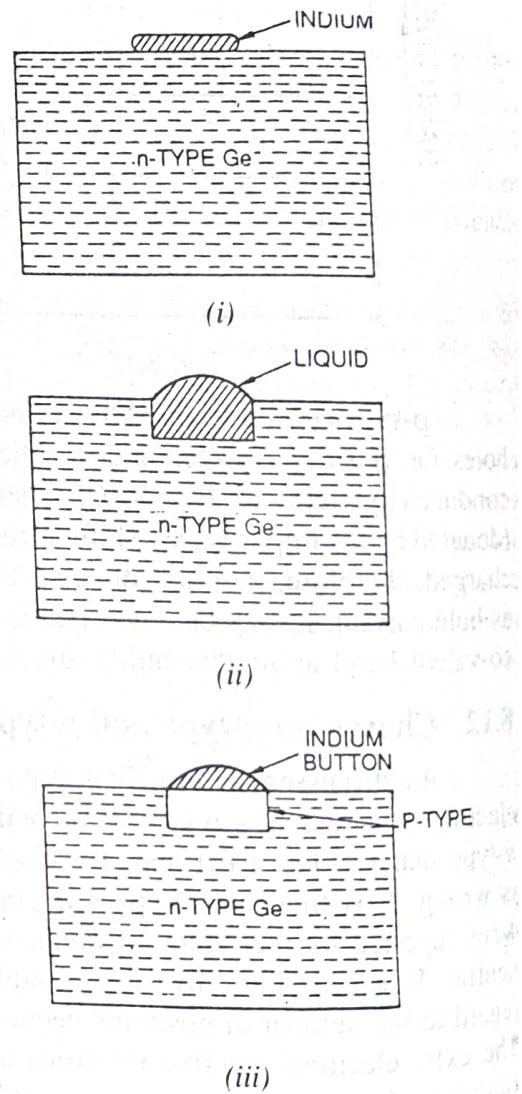

Fig. 8.18
**Formation of pn junction.** In actual practice, the characteristic properties of *pn* junction will not be apparent if a *p*-type block is just brought in contact with *n*-type block. In fact, *pn* junction is fabricated by special techniques. One common method of making *pn* junction is called *alloying*. In this method, a small block of indium (trivalent impurity) is placed on an *n*-type germanium slab as shown in Fig. 8.18 (i). The system is then heated to a temperature of about  $500^{\circ}\text{C}$ . The indium and some of the germanium melt to form a small puddle of molten germanium-indium mixture as shown in Fig. 8.18 (ii). The temperature is then lowered and puddle begins to solidify. Under proper conditions, the atoms of indium impurity will be suitably ad-
As the process goes on, the remaining molten mixture becomes increasingly rich in indium. When all germanium has been redeposited, the remaining material appears as indium button which is frozen on to the outer surface of the crystallised portion as shown in Fig. 8.18 (iii). This button serves as a suitable base for soldering on leads.